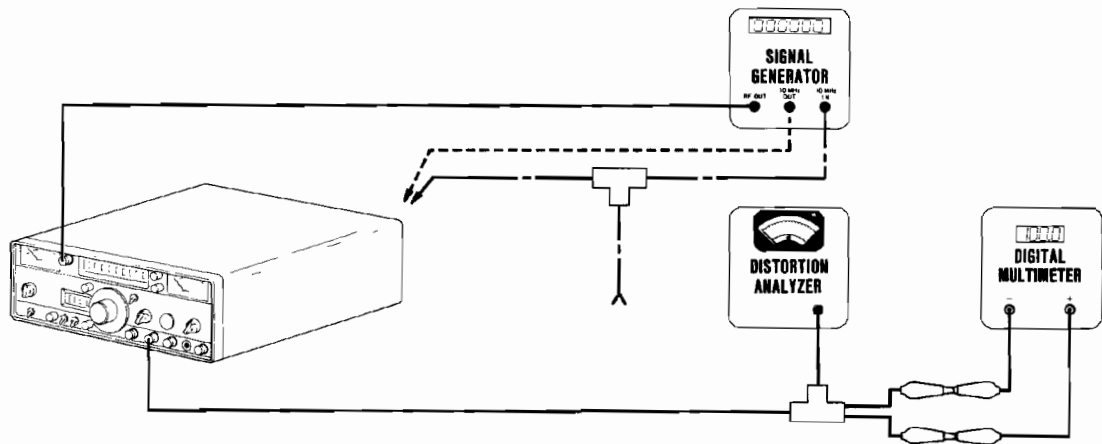

Figure 3-3 Receiver Lab Test Set-Up
1. Connect FM/AM-500A to accessory test equipment as shown in Figure 3-3.
3. Set Power Switch (17) in "LINE" position.
4. Slowly increase output level of Signal Generator until FREQUENCY ERROR Meter (21) indicates 0 Hz ( $\pm 100$  Hz). Verify Signal Generator output is less than -100 dBm ( $2 \mu\text{V}$  into  $50\Omega$ ).
6. Rotate Modulation Mode Selector Switch (9) to "FM MID".